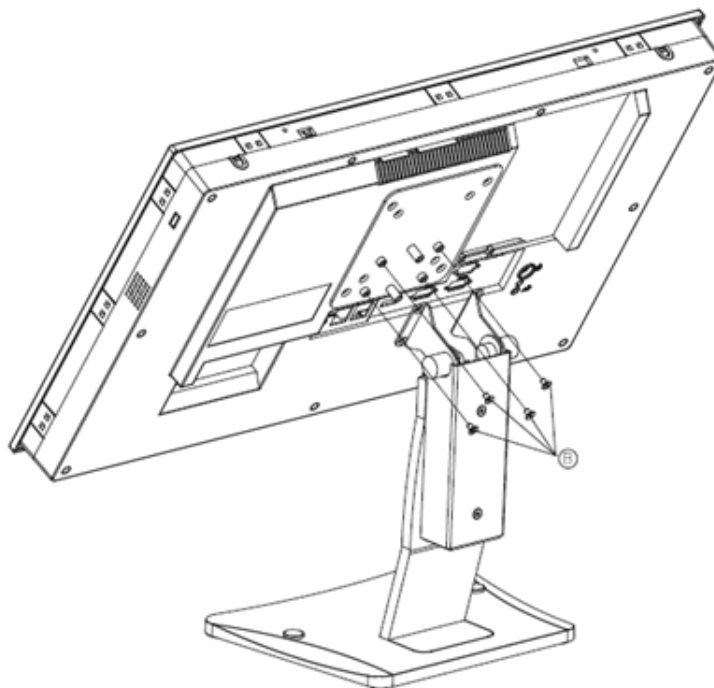

Figure 2.36 Securing the VESA mount bracket
3. Use four M4 x 6L screws to secure the mount stand to the VESA mount bracket (Figure 2.36).